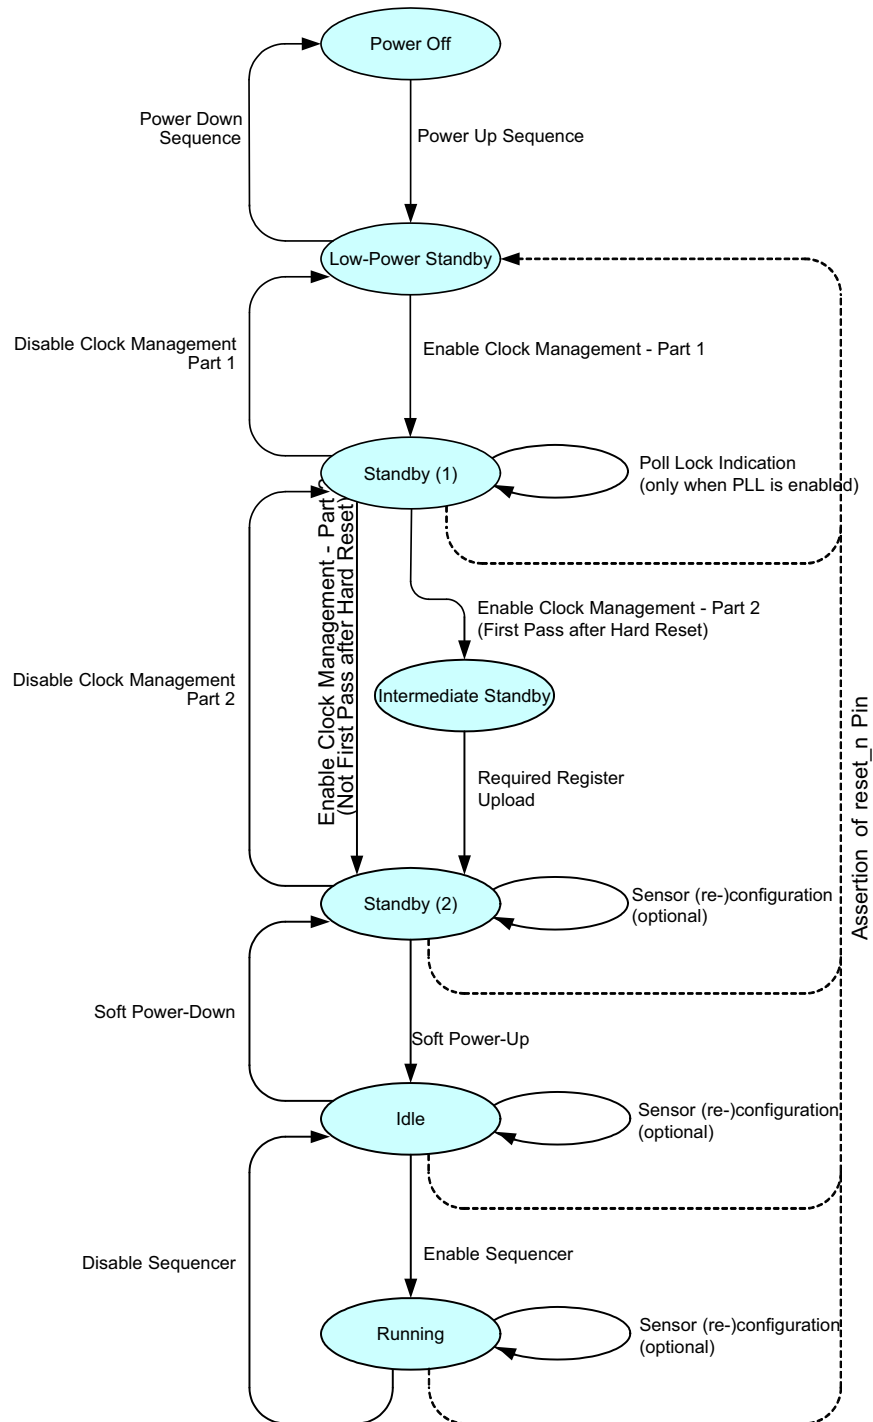

Figure 15. Sensor Operation Flowchart
Figure 15 shows the sensor operation flowchart. The sensor has six different ‘states’. Every state is indicated with the oval circle. These states are Power off, Low power standby, Standby (1), Standby (2), Idle, Running.
Check the PLL\_lock flag 24[0] by reading the SPI register. When the flag is set, the ‘Enable Clock Management– Part 2’ action can be continued. When PLL is not used, this step can be bypassed as shown in Figure 15 on page 15.